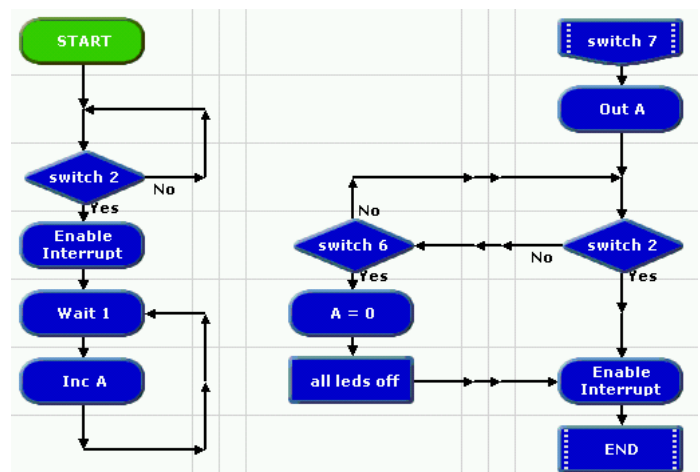

Fig 16. Stopwatch with pause and reset features.
The program shown in Fig 16 is a development of the simple stopwatch program. After you have pressed switch 7 to display the time, you have the choice of either: pressing switch 2 to restart the timing from the point at which you stopped it – or, pressing switch 6 and resetting the time and the display to zero. The command which sets A=0 is an Expression command.
2. Edit your program to that shown in Fig 16. Test run it; then download it and try it in the T-board.